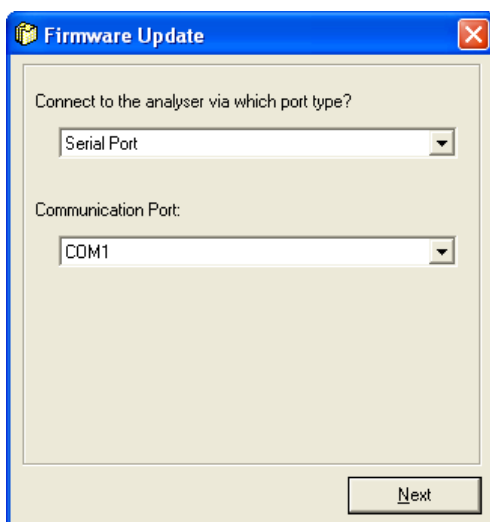

Figure 35 – Communications window
3. Select 'Serial Port' and the COM Port on the computer from those listed on the Firmware Update screen as shown in Figure 35.